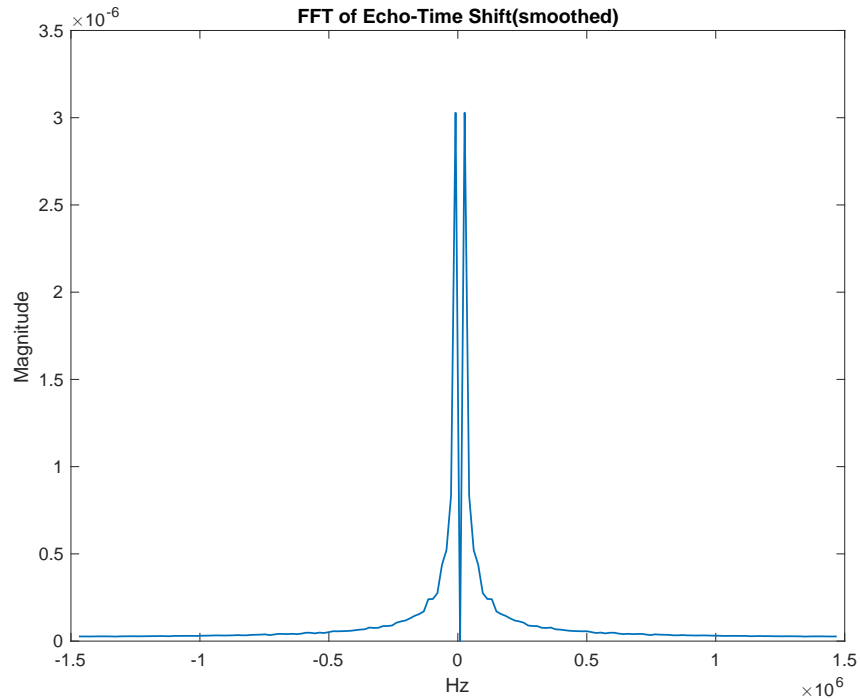

Figure 2: FFT of Echo-Time Shift (smoothed)
we can find the filter size (N) to design appropriate moving average filter. Figure 2 shows the FFT result after applying moving average filter.